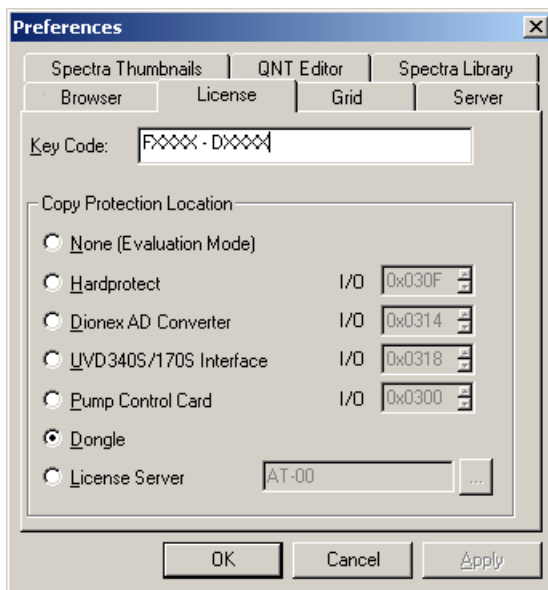

Figure 7. Preferences: License Page
7. Select **File>Preferences** to open the Preferences dialog box (see Figure 7). Select the **License** tab and click **Dongle**. Enter the **Key Code** exactly as it appears on the Chromeleon Software License key code sheet. Click **OK**.